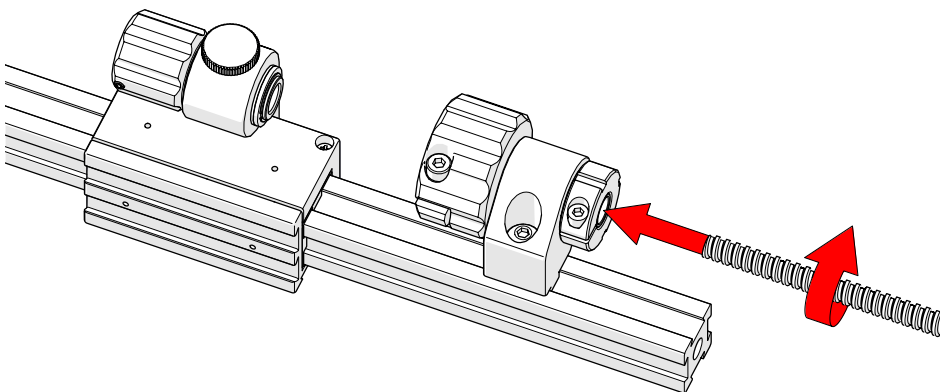

Fig. 248 - Insert leadscrew into main knob and slider
5. Rotate the leadscrew to insert into the main knob and slider (*Fig. 248*).